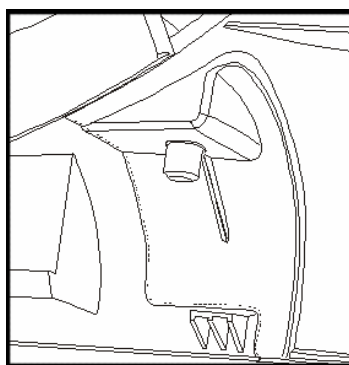

Fig. 7-29
(5) Install the two fixing buckles into the buckle bracket of the B pillar lower guard panel and the column at the upper side of the B pillar lower guard panel into the B pillar upper guard panel holes, and put the buckle foot in the appropriate position (as shown in the following figure). Two fixing buckles shall be installed in the buckle holes.
(6) Make the snap spring fixed on the A pillar lower guard panel clip the brim of the metal sheet and press ahead. Install the buckles on the bolt from the inner side and press the A pillar lower guard panel inward tightly.
(7) Install the front and rear door sill guard panel, press the end of the door sealing strip under the door sill guard panel and put the small column connecting to the B pillar lower guard panel into the corresponding round hole on the B pillar lower guard panel, and place the buckles (3 buckles see D; 2 buckles see C.) under it into the corresponding installing holes of the body, and the small buckle foot connecting to the B pillar lower guard panel, in position. See Fig. 7-29.